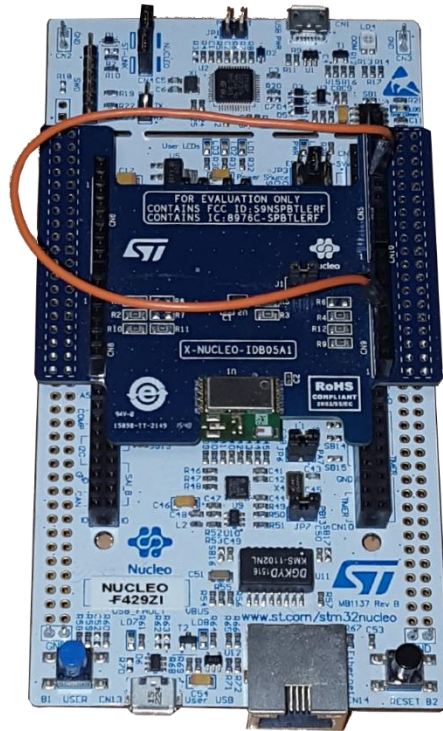

Figure 6 STM32 Nucleo 144 pins and X-NUCLEO-IDB05A1
- Figure 6 STM32 Nucleo 144 pins and X-NUCLEO-IDB05A1